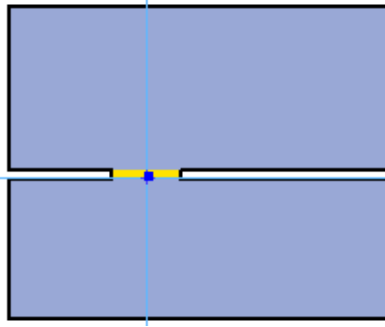

Figure 82. Click inside the gap
3. Once the appropriate parameters have been entered, move the cursor over the desired doorway (Figure 82). A door preview will be displayed. If it doesn't, adjust the search parameters in the property panel and try again.